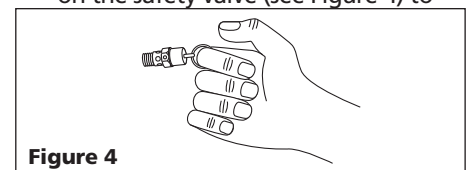

Figure 4
- Wearing safety glasses, pull the ring on the safety valve (see Figure 4) to
- Pull ring on safety valve and allow it to snap back to normal position (Figure 4).